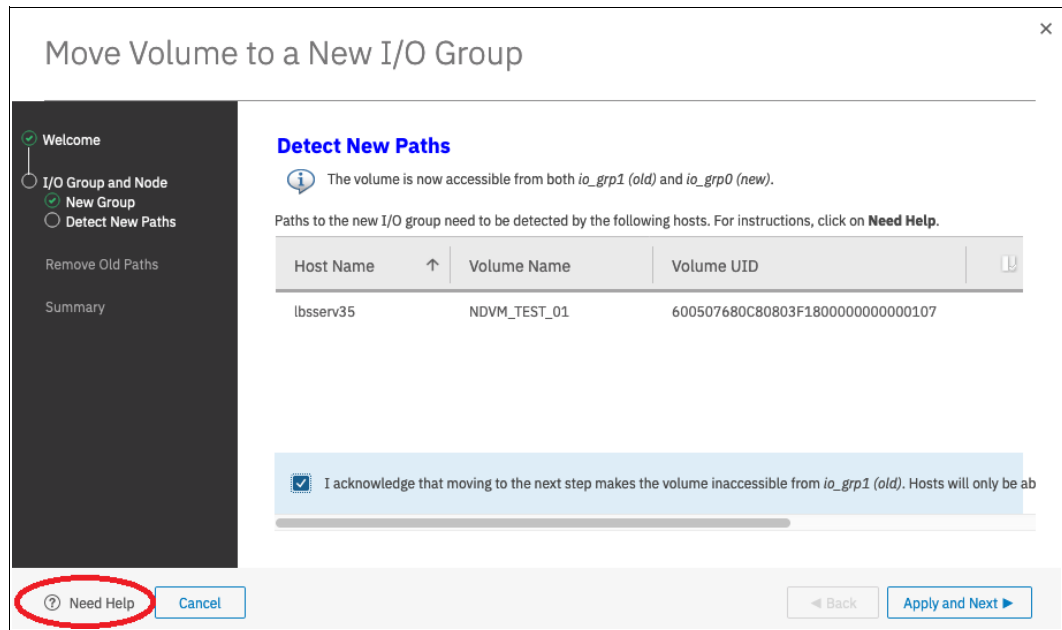

Figure 6-71 Modify I/O Group for a mapped volume wizard: Validation
3. Click **Close** to proceed to the validation window, as shown in Figure 6-71 on page 437. Click **Need Help** to see information about how to prepare the host for the volume move. After the host is ready for the volume path change, check the box confirming that path validation was performed on the host.